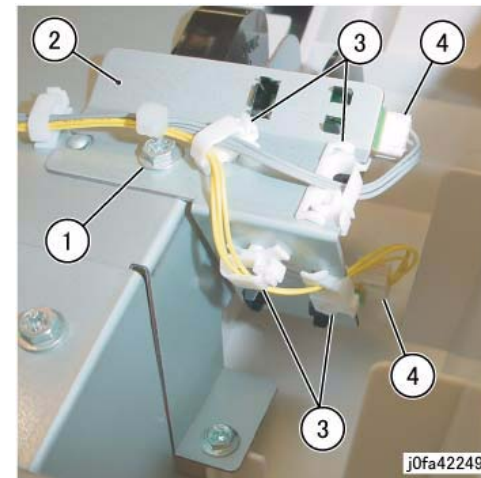

Figure 3 Removing the Stacker Sensor Assembly
10. Remove the Stacker Sensor Assembly (Figure 3):